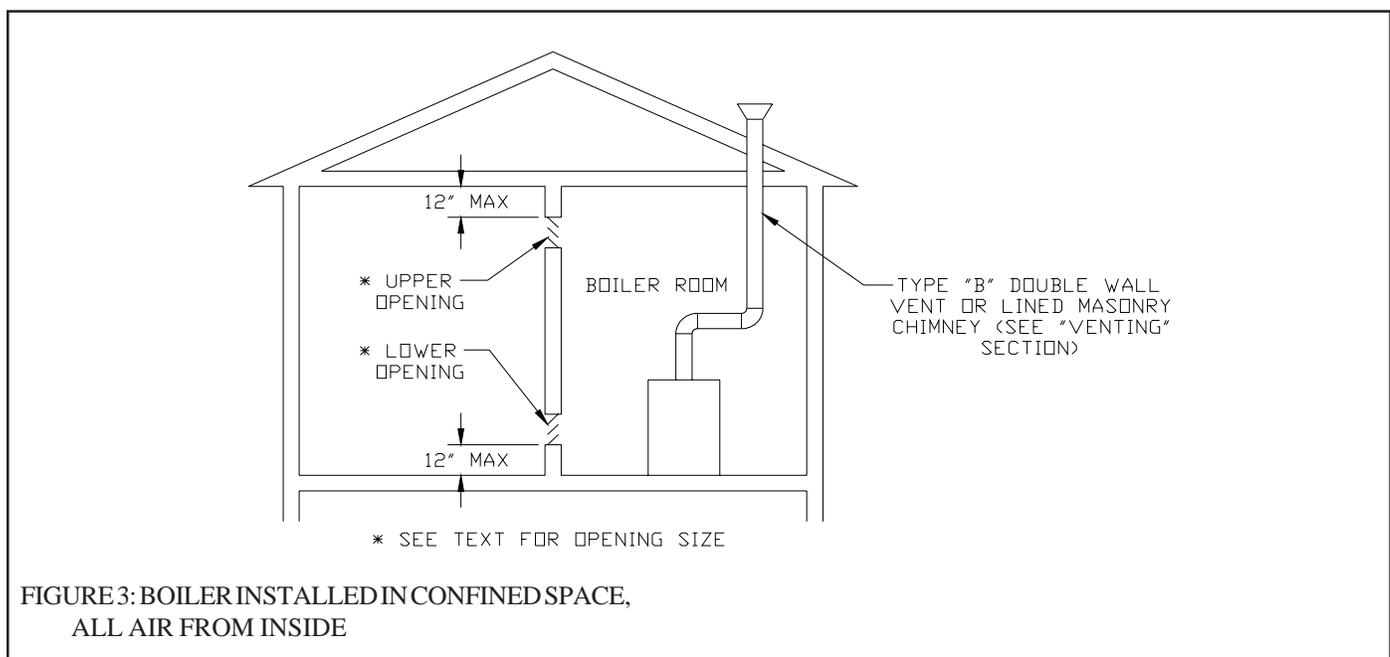

FIGURE 3: BOILER INSTALLED IN CONFINED SPACE,
3) Confined Space - Provide two openings into the boiler room, one near the floor and one near the ceiling. The top edge of the upper opening must be within 12" of the ceiling and the bottom edge of the lower opening must be within 12" of the floor (Figure 3).